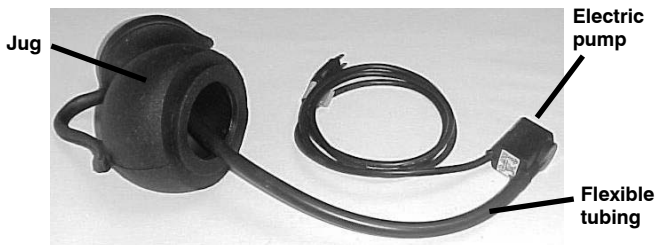

FIGURE 1
3. Locate the flexible tubing on the jug and connect the tubing to the pump (Figure 1).